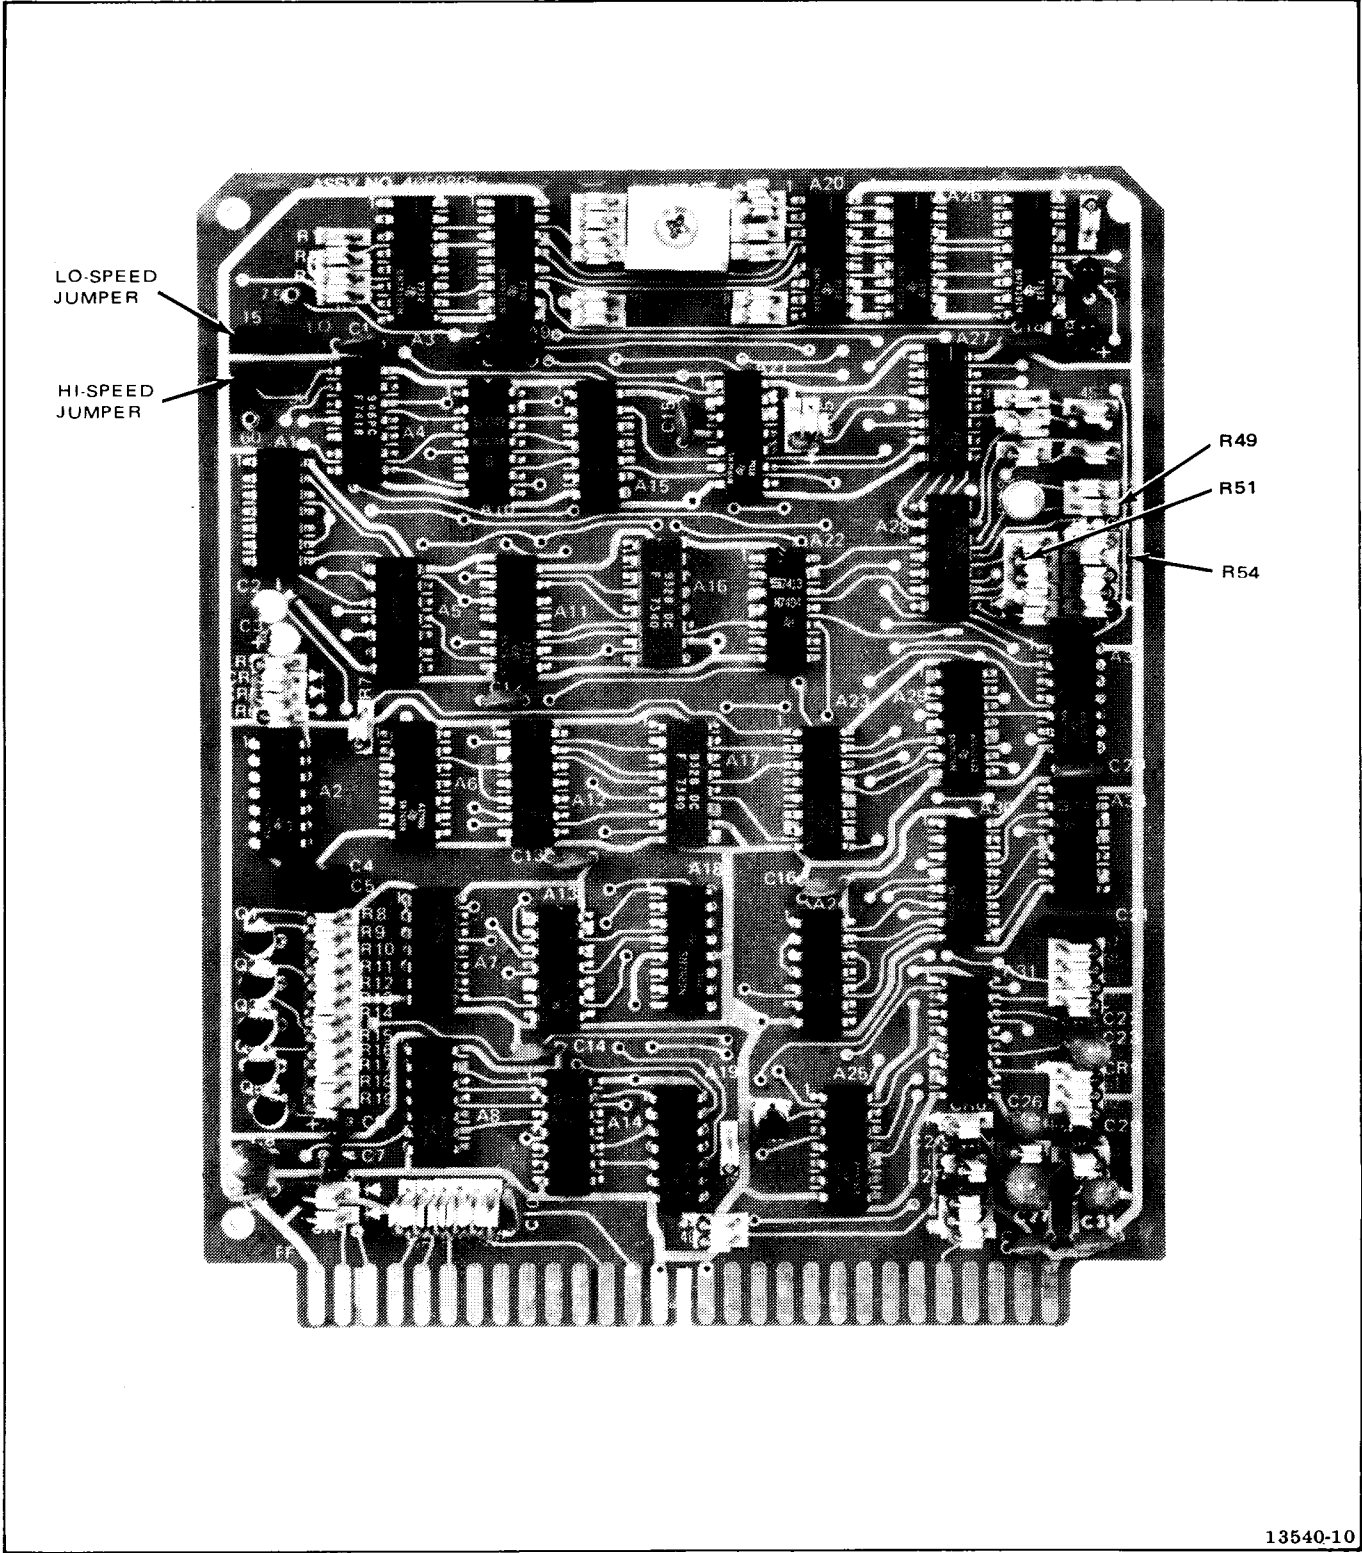

Figure 2-4. Search-to-Cue and Tape Timer PWA
On the search-to-cue and tape timer PWA (Figure 2-4), position the speed straps as follows:
1. On the search-to-cue and tape timer PWA (Figure 2-4), remove 33K resistor R51, and replace it with a 68K, 1/4-watt, 5%, composition-type resistor.